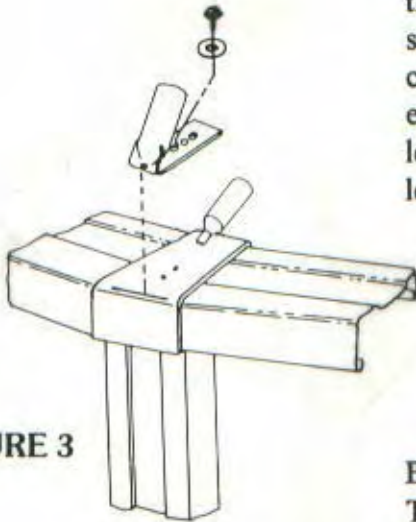

FIGURE 3
A. Attach the mounting brackets as shown in Figure 3 on the top cap of each vertical support. The mounting bracket should be located near the outside edge of the top cap, centered on the cap, but not extending past the outside edge. Mark on the top cap, with the indelible marker, the location of the two outer holes on the mounting bracket, leave the center hole open. See Figure 3.
B. Drill your holes with the 3/16" drill bit. **DO NOT LET THE METAL SHAVINGS FALL INTO THE POOL WHILE DRILLING.** It is best to have a vacuum ready and running while you drill to take away the shavings. See Figure 3.